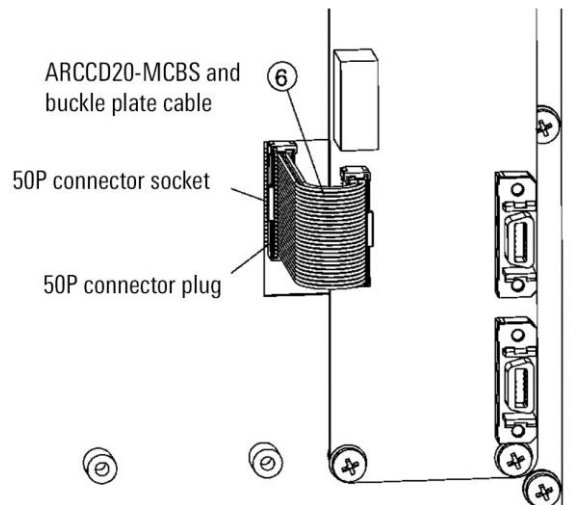

Figure 2-8 MCB and MCB-IEB connection
- Step4. Connect the 50P connector plugs at both ends of the ⑥ ARCCD20-MCBS and buckle plate cables to the 50P connector sockets on the MCB and ③ MCB-IEB respectively, refer to Figure 2-8.